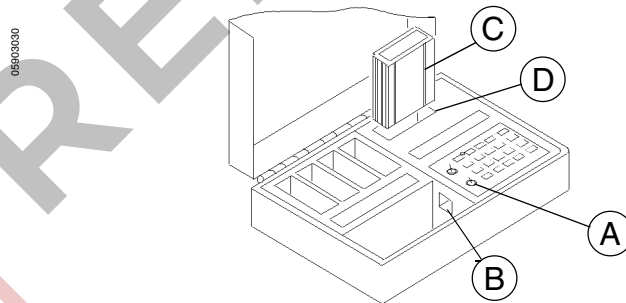

Figure 5: Universal Test Set
3. Place test set on a flat surface no more than five feet from circuit breaker to be tested. Open case fully to lock cover into the open position (fig.5).
7. See table on page 4. Select appropriate circuit breaker test module (C, fig. 5) and insert into module receptacle (D).